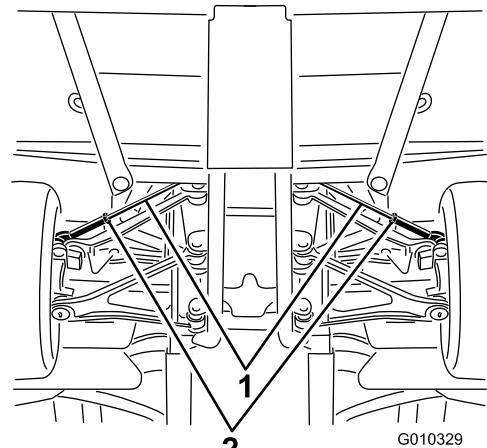

Figure 51
- Loosen the jam nut at the center of the tie rod (Figure 51).